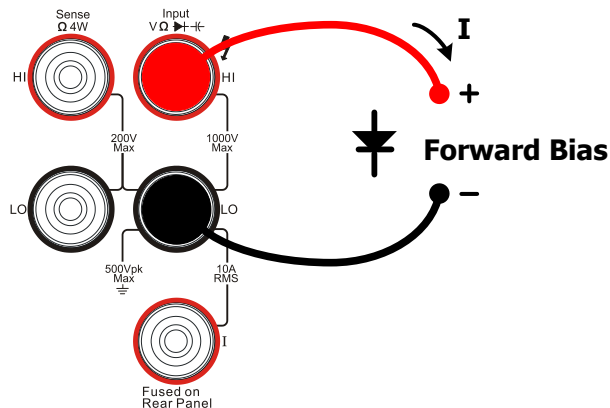

Figure 2-28 Sketch map for connecting
1. Connect test leads as shown in Figure2-28, red lead connects with Terminal HI, black lead connects with Terminal LO.